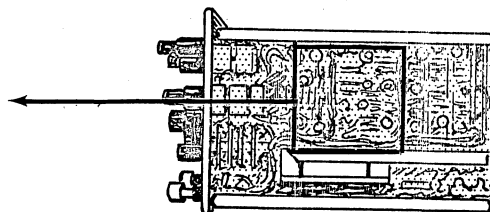

Figure 5-7
3. Connect a X10 test scope probe to the collector of Q464 (see figure 5-7).